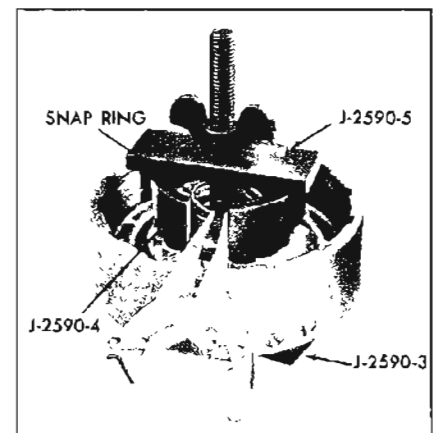

Figure 5-616
6. Compress springs using clutch compressor tool or J-2590, and install snap ring. See Figure 5-616.